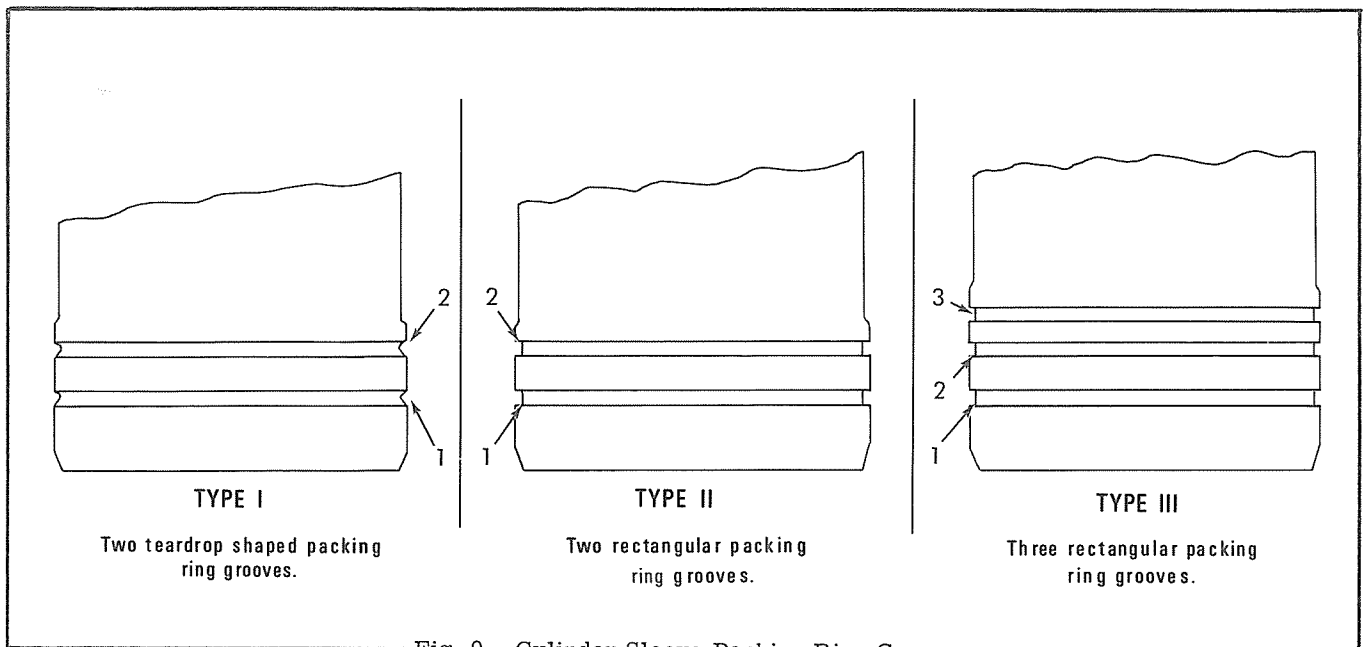

Fig. 9 - Cylinder Sleeve Packing Ring Grooves
5. Thoroughly clean packing ring grooves in the cylinder sleeve. Stand sleeve on a clean work bench, packing ring end up. Refer to Fig. 9 and install dry packing rings on dry cylinder sleeve as follows: